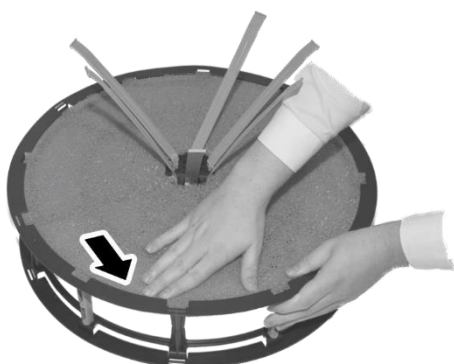

Fig. 25: Positioning and clamping the evaporation filter
7. → Pull the new inner evaporation filter over the filter holders (Fig. 25).